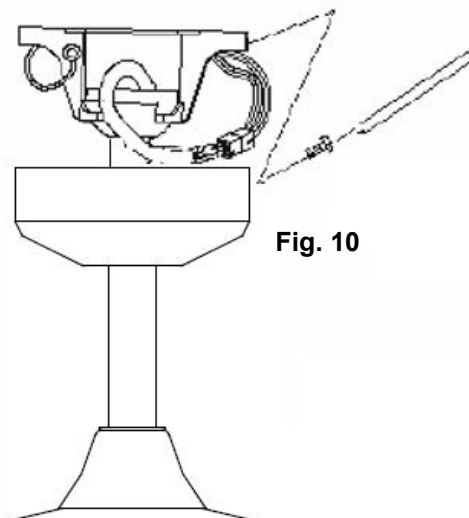

**Fig. 9**
- Carefully insert the Remote Receiver above the hanger ball in the remainder spacing in the mounting bracket. Take care not to damage or loosen any of the wiring (label 5 & Fig. 9).